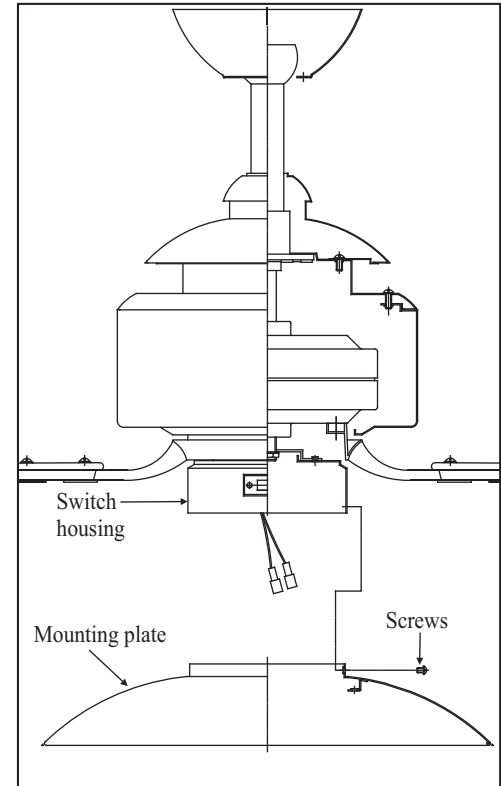

Figure 21
4. Carefully push all wires back into the switch housing, then install the mounting plate onto the switch housing with 3 screws provided. Be sure to tighten all screws. (Fig. 21)